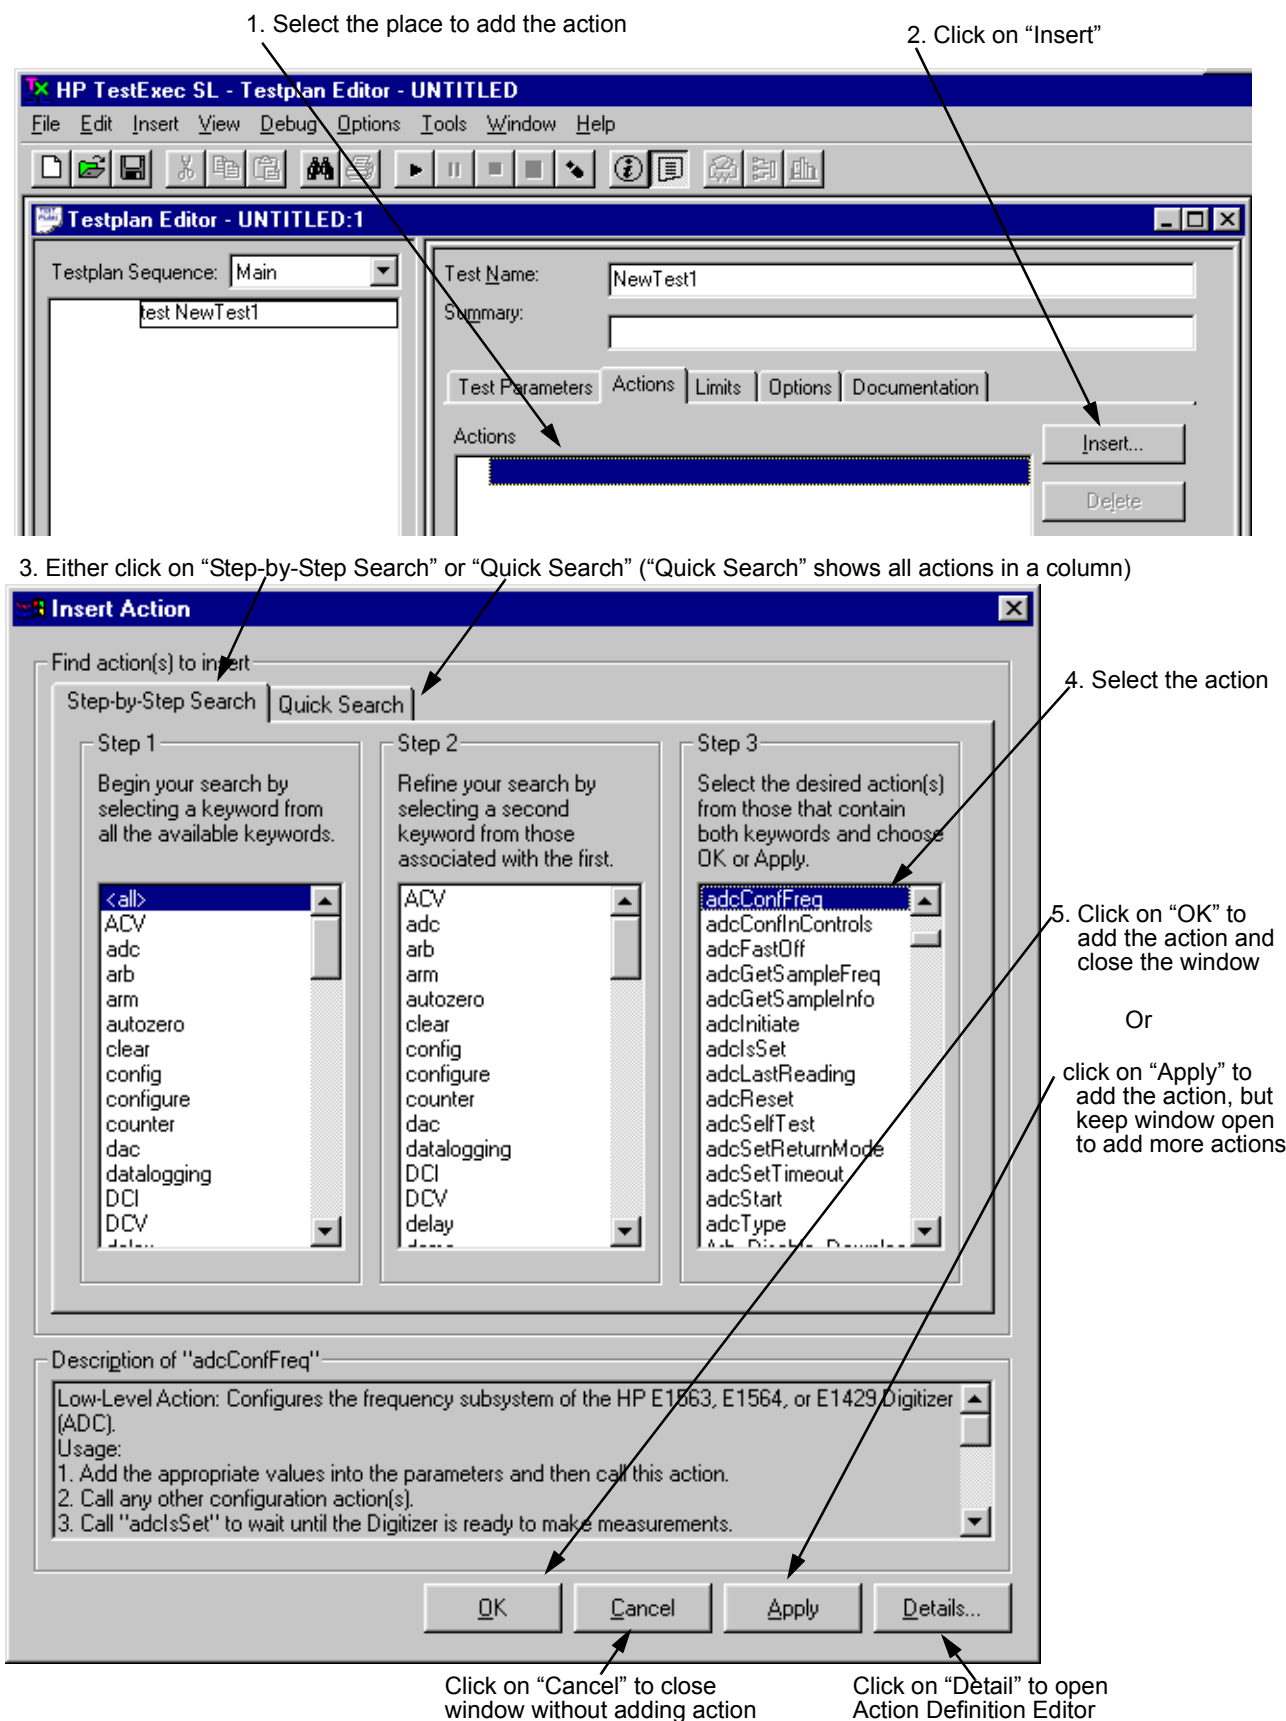
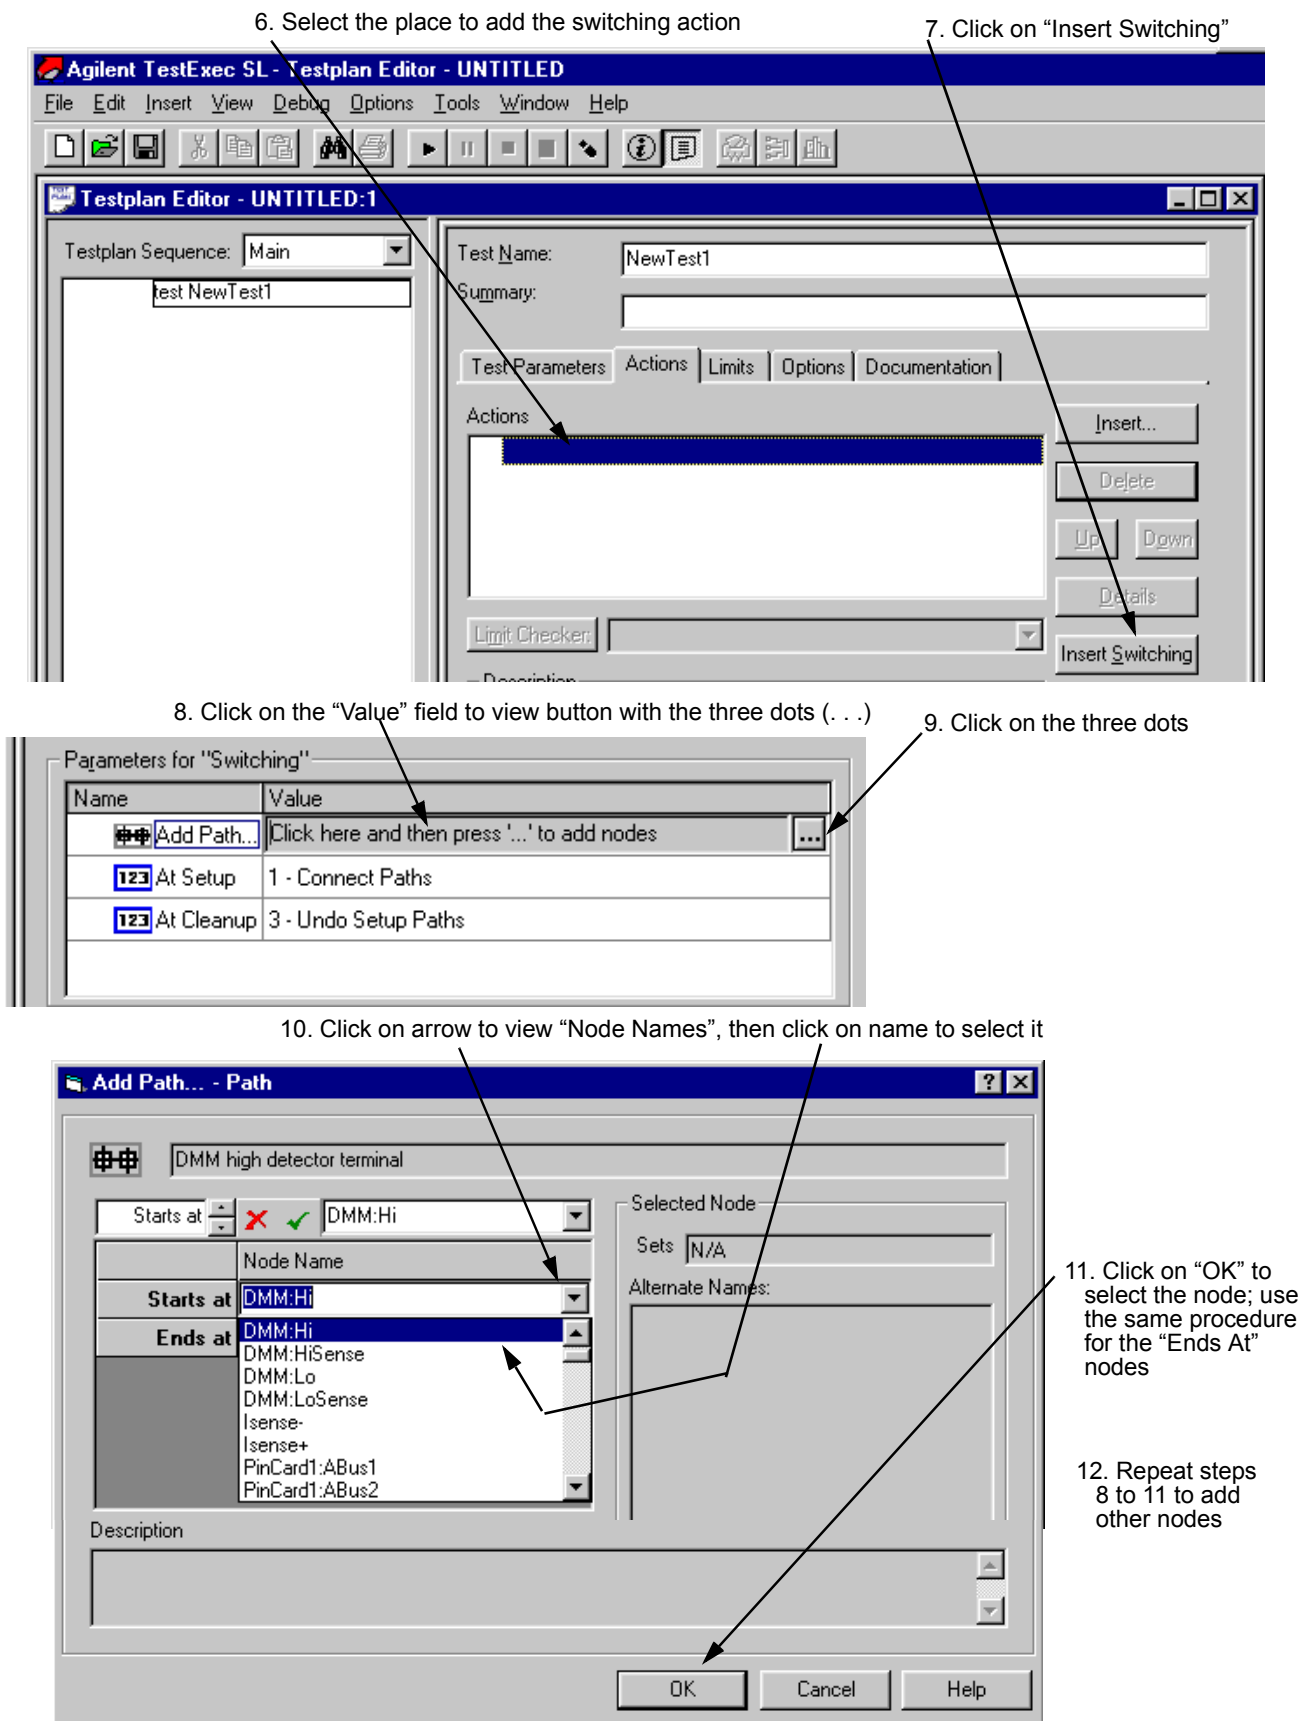

Figure 2-3. Adding an Action
Figure 2-4. Adding a Switching Action
4. Add an action to the test, as shown in Figure 2-3 and Figure 2-4.
There are two different actions that can be added, a regular action and a switching action. Figure 2-3 shows how to add a regular action and Figure 2-4 shows how to add a switching action.